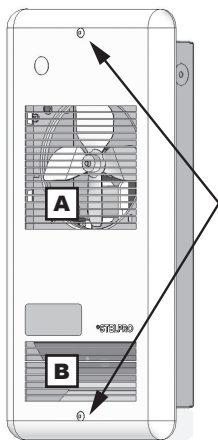

FIG. 1
7. Screw the grille back on using the two (2) screws removed in Step 1 (FIG. 1). **Be sure to install the grille in the correct direction. The (A) opening must always face the fan blades and the (B) opening the hot air outlet. If the grille is installed upside down, the unit will stop working.**